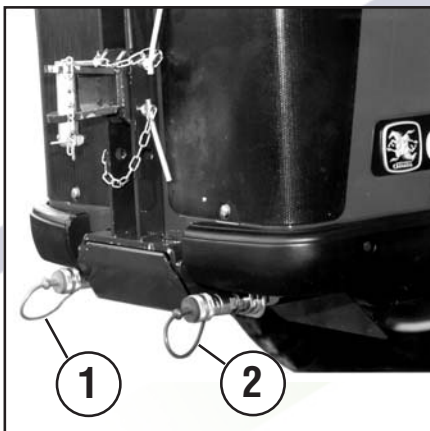

Fig. 36
Upon request, the machine can be supplied with the following hydraulic couplings (Fig. 36 - 37) for attaching specific tools:
- four double-acting: two at the front (1-2 Fig. 36) and two at the rear (3-4 Fig. 37);